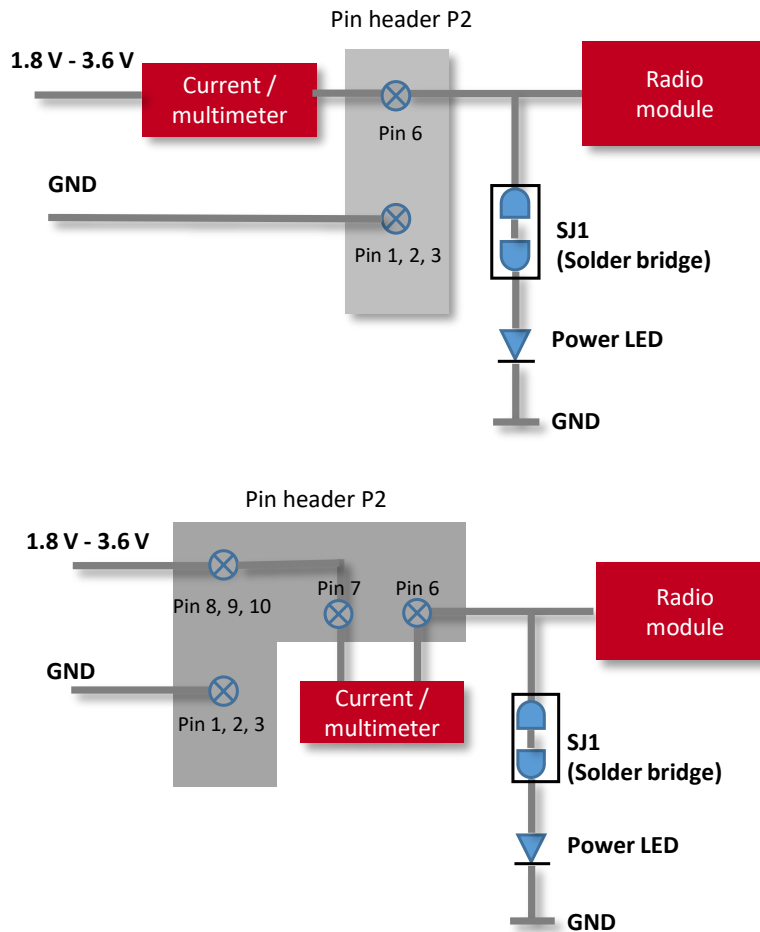

Figure 11: Power supply corresponding to table 22 No 3
1.8 V-3.6 V is connected either directly to Pin-6 (*VDD_MOD / V_IN*) and the current is measured in series as illustrated in the upper picture of Figure 11.
Or it is connected to Pin 8-10 (*V_EXT / SUPPORT PINS*) and the current is measured on header P2 Pin 7 (*V_EXT / SUPPORT PINS*), which is internally connected with Pin 8, 9, 10 to Pin 6 (*VDD_MOD / V_IN*) as illustrated in the lower picture of Figure 11. With SJ1 open the LED is not lighting but the current is measured corrected.